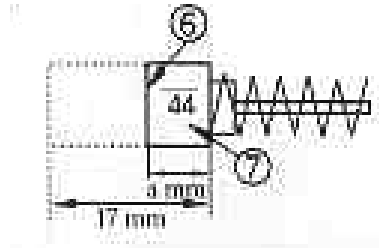

Fig 6
The motor employs carbon brushes that are consumable parts; since an excessively worn carbon brush could result in motor trouble, replace the carbon brush. Wear limiter (6) No of carbon brush (7). (See Fig 6)